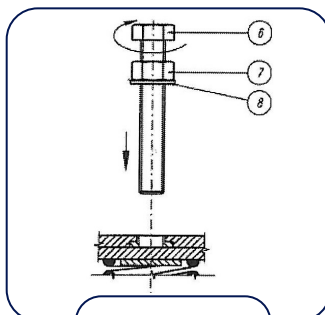

FIG. 3
- The leveling bolts can now be fitted. First make sure that all leveling bolts (6) have the provided locknut (7) screwed onto the bolts, followed by the washers (8) [fig 3]. Screw the leveling bolts through the base frame of the machine into the top cover of the steel spring isolator until resistance is felt. This resistance indicates that the end of the leveling bolt has come into contact with the spring pressure plate.